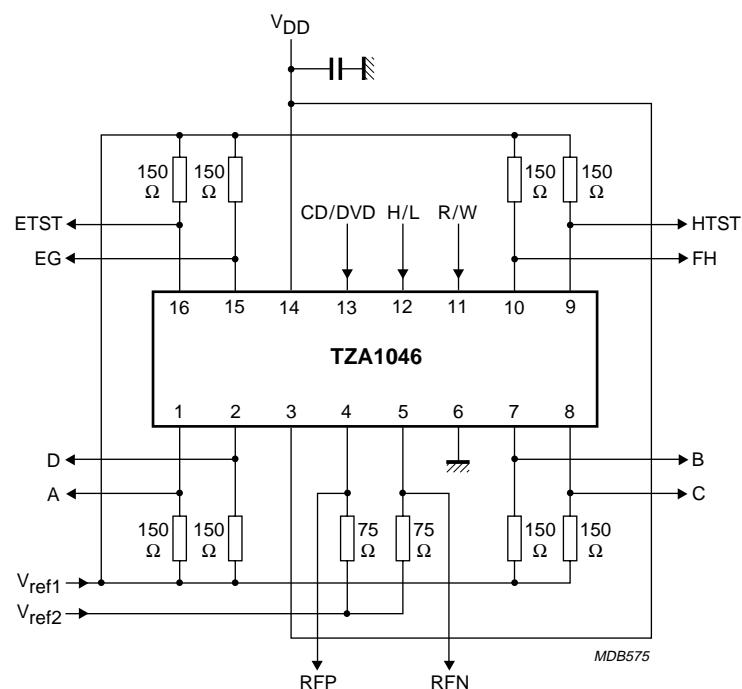

Fig.6 Application example.
$V_{\text{ref}} = V_{\text{ref1}} = V_{\text{ref2}}$; see Fig.6.
1. The sensitivity of the TZA1046 is specified in A/W because it has current outputs. In the application diagram (see Fig.6) the resistors of 150Ω convert the currents into voltages. The maximum absolute spread is $\pm 20\%$.
An application example for the TZA1046 is shown in Fig.6. The satellite segment pins are cross-coupled to be suitable for rewritable applications.